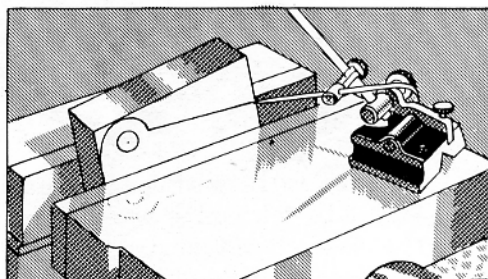

FIG. 303
1. Clamp the work in the vise temporarily with the layout line which indicates the finished surface as nearly level as it is possible to set it by eye (Fig. 303).
3. Place the surface gage on the surface which has been prepared for its use. Adjust the point of the scriber to one end of the layout line (Fig. 303).